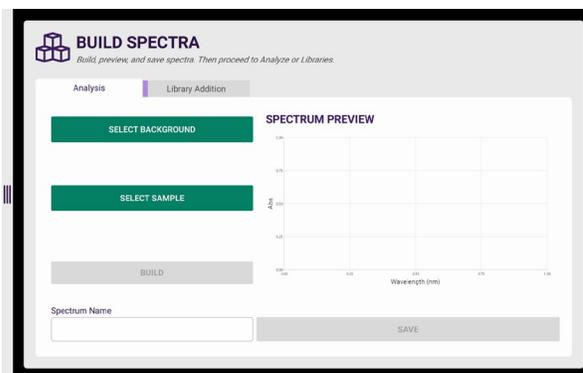

Figure 13. Tag data by scan type [background, sample] and intended purpose [analysis, library addition] before scanning.
2. The Build Spectra screen is for either a library addition or sample analysis, or both (Fig. 13).